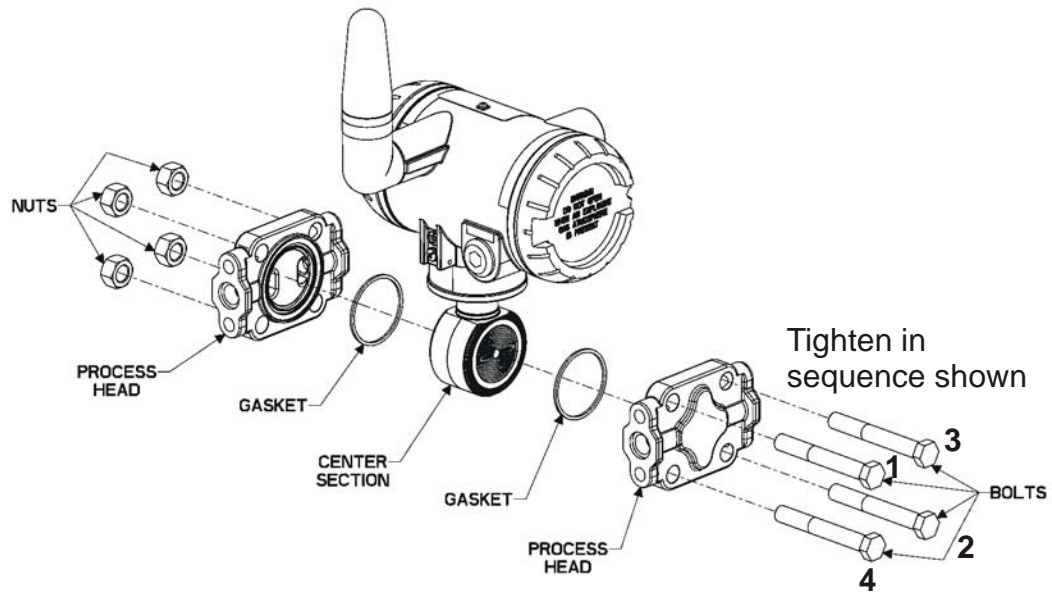

Figure 8 Assembly of DP Transmitter Process Heads
The procedure in Table 6-1 outlines the general steps for inspecting and cleaning barrier diaphragms. You may have to modify the steps to meet your particular process or transmitter model requirements. Figure 8 shows an exploded view of a DP transmitter's meter body for reference.
2	Remove nuts from bolts that hold process head or heads to meter body. Remove process heads and bolts. See Figure 8.
- For process heads of a GP or AP transmitter with dual-head design, see illustration for differential pressure transmitters in Figure 8.
- 8 Use a torque wrench to gradually tighten nuts to torque rating shown in Table 6-2, in sequence shown in Figure 8. Tighten head bolts in stages of 1/3 full torque, 2/3 full torque, and then full torque.